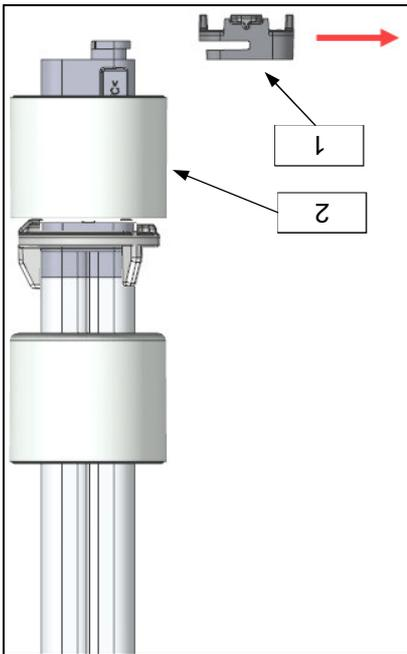

Figure 8
The respective switching function selected can be identified by the colour marking of the float (Figure 8, item 2):
- By turning the float (Figure 8, item 2) through 180°, the switching function normally open to normally closed or normally closed to normally open can be subsequently inverted. Only the switching function normally open or normally closed can be inverted.
- **Only the float at the empty signal switching point (S1) can be turned. This function is not possible with the float (Figure 8, item 2) of the pre-empty switching point (S2).**